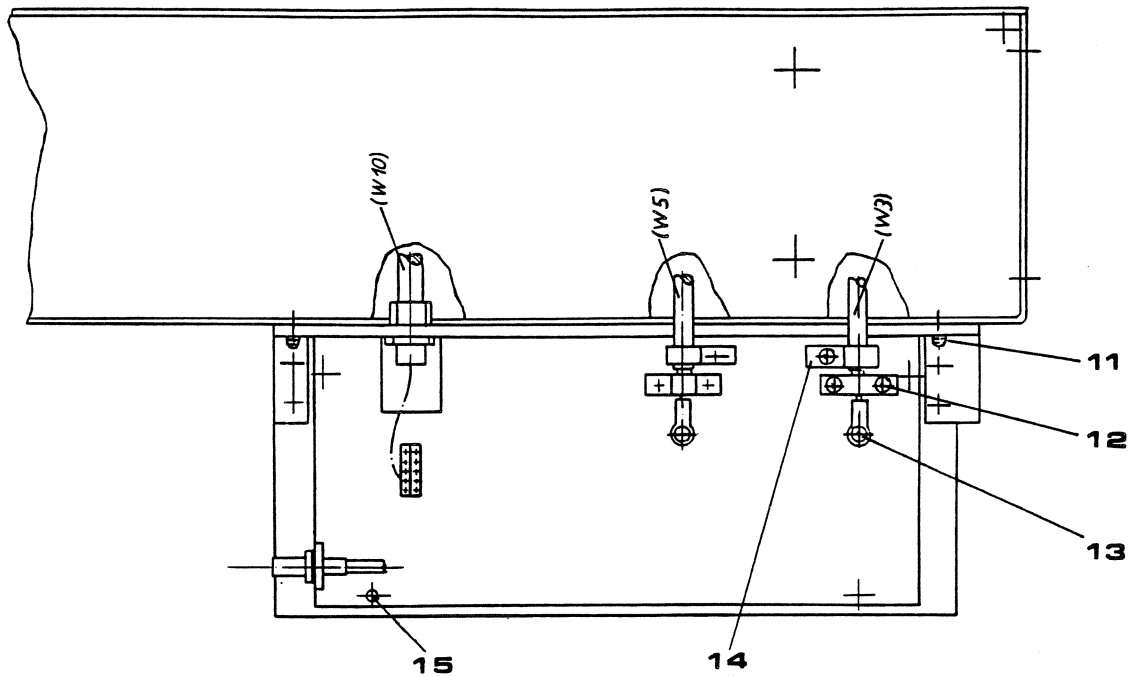

Fig. A.1 Harmonics Filter with Tx/Rx Relay
5. Undo the 32 screws (1, Fig. A.1) that secure the cover of the harmonics filter.
7. Undo the five screws (10, Fig. A.1) that secure the cover of the harmonics filter control circuit.
9. Fix the Tx/Rx relay to the bottom of the harmonics filter with four screws (11).
10. Undo the four screws (15) that secure the cover of the Tx/Rx relay.
12. Undo the contact screw (8).
13. Unscrew the cable bracket (7) and the cable clamp (6).
14. Unscrew the cable bracket (12) and the cable clamp (14).
15. Undo the screw (13).
16. Lead RF cable W3 through the opening (5), the bottom of the harmonics filter, the cable clamp (14) and the cable bracket (12).
17. Secure the contact using the screw (3).